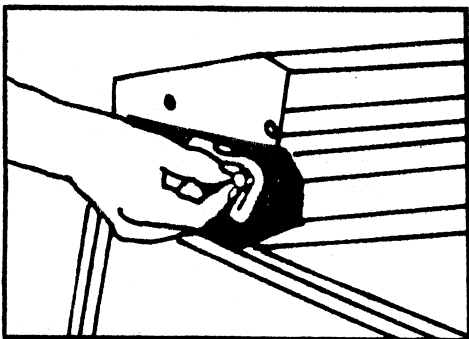

Figure 13
2. To clean the Scraper Bar, unscrew the brass knob on the Paste Adjustment Lever (Figure 13). Wash with water to clean. Do not use a harsh object to remove paste from the scraper teeth.